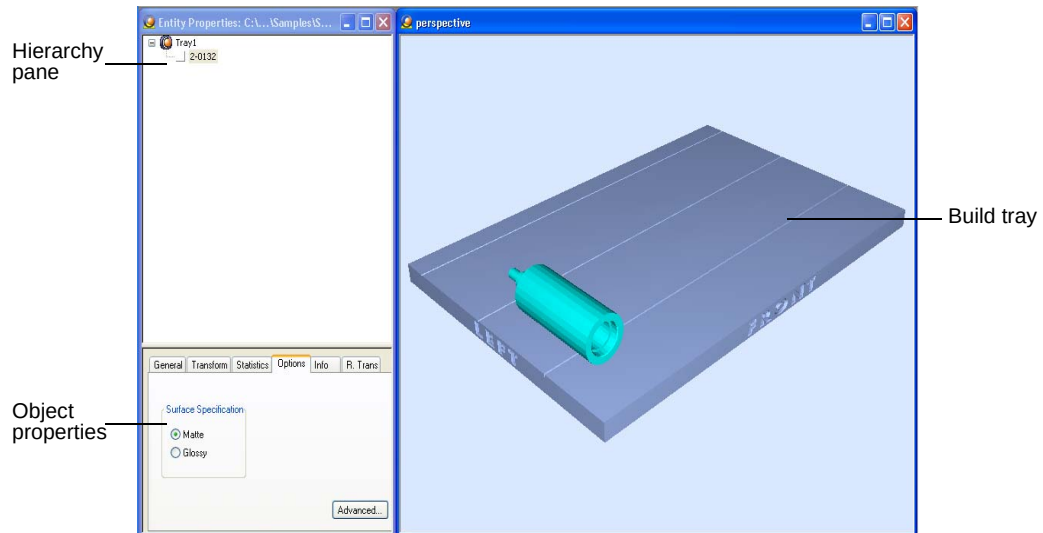

Figure 5-4: Default screen layout
The default screen layout displays the *perspective* view of the build tray and the tray hierarchy pane, which lists the elements placed on the tray (see figure 5-4 on page 4). You can view models from different angles by changing the screen layout.
- ❑ 2 Views is the default screen layout, already displayed (see figure 5-4 on page 4).